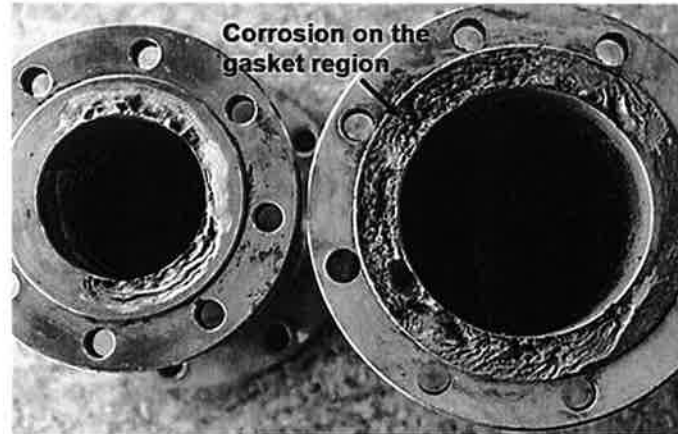

FIGURE Q3a
3. a. A chemical processing plant uses stainless steel tanks to store acidic solutions. Over time, corrosion is observed around the gaskets and flanges as shown in **FIGURE Q3a**.